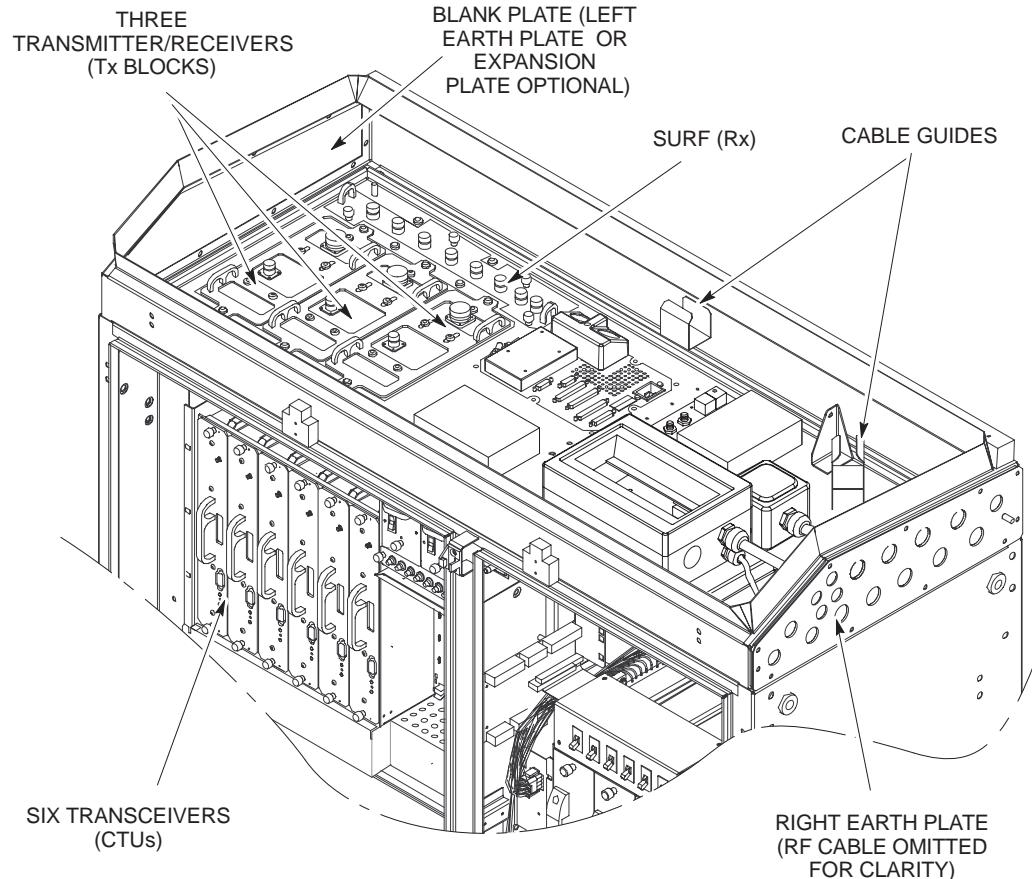

Figure 3-10 Location of RF components
The components shown in Figure 3-10 provide all the RF connections to the cabinet and internally within the cabinet. Up to four cabinets can be interconnected to form a single BTS site.
4. Route RF cables and long earth cable from left side earth plate through top section cable guides, indicated in Figure 3-10.